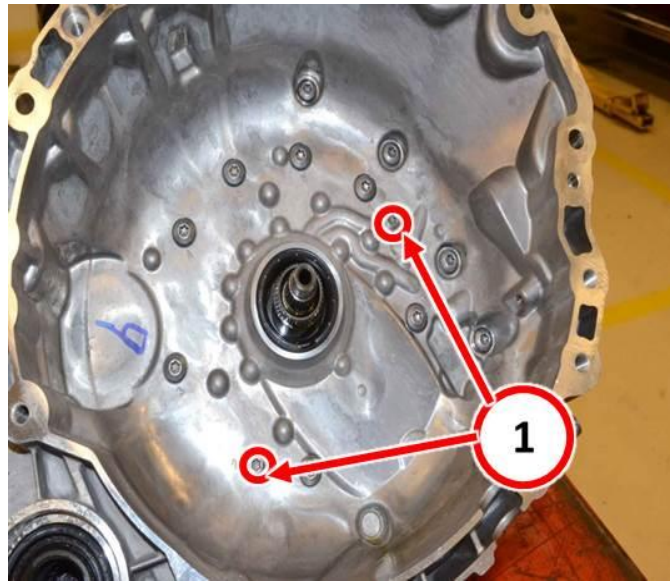

Fig. 5 Inner Bellhousing Bolts
12. Remove the inner bellhousing bolts (Qty 11). **Do Not** remove bolt #2 or #8 at this time. See (Fig. 5).